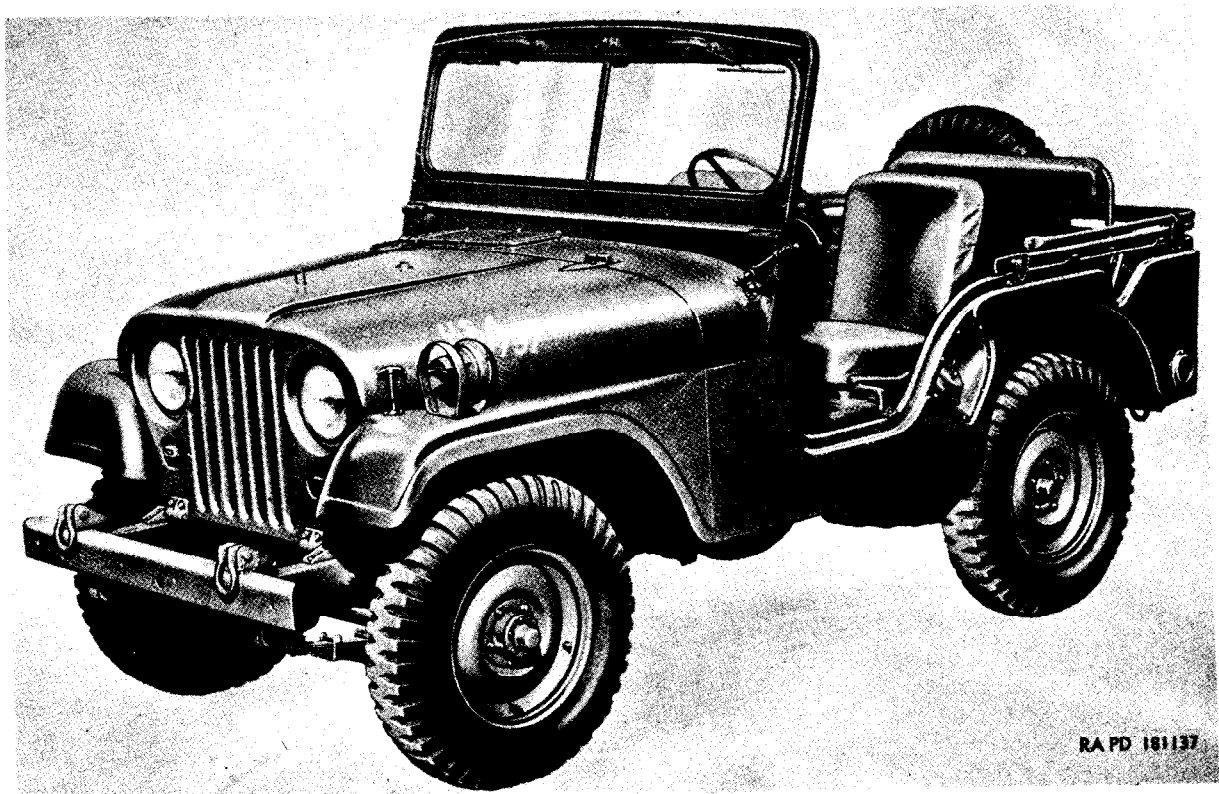
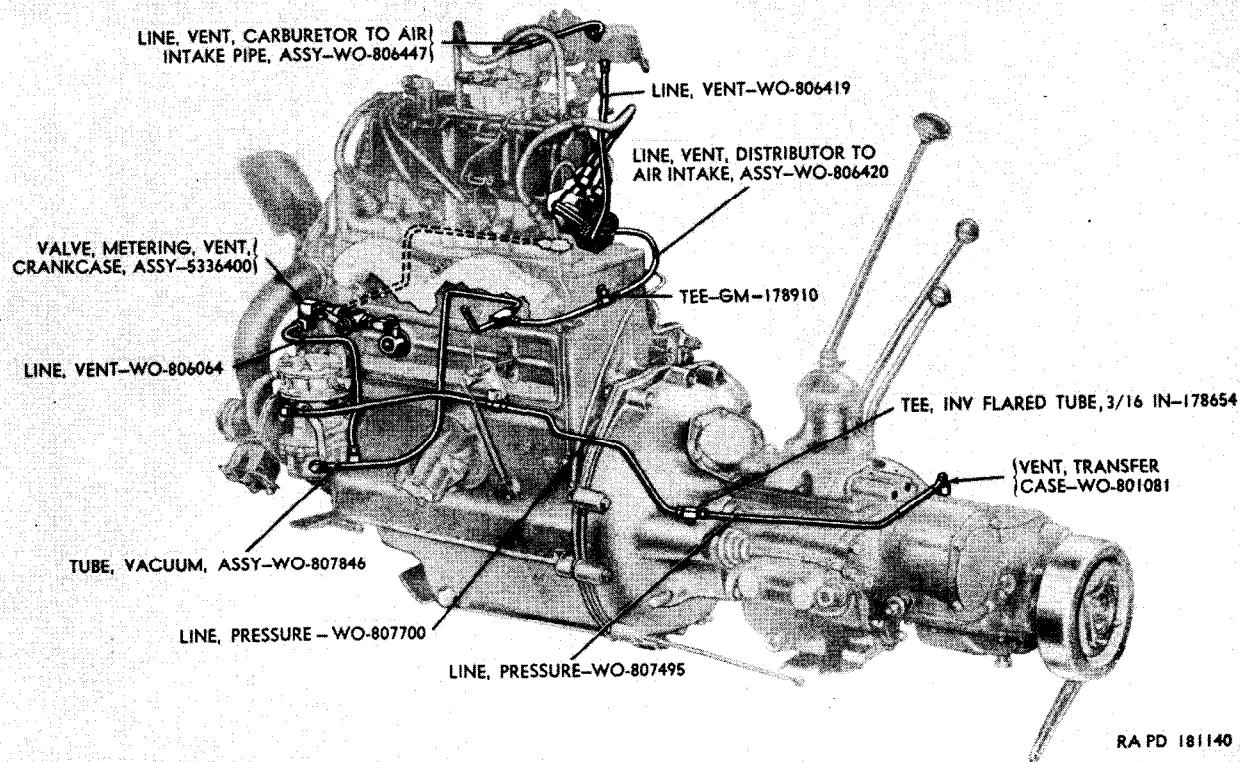

Figure 1. 1/4-ton, 4 x 4 utility truck M38A1—three-quarter left front view.
Figure 4. Underwater ventilating system.
b. This manual contains a description of and procedures for removal, disassembly, inspection, repair, rebuild, and assembly of the power train, body, and frame of the ¼-ton, 4 x 4 utility truck M38A1 (figs. 1, 2, and 3). The appendix contains a list of current references, including supply manuals, technical manuals, and other available publications applicable to the materiel.
a. General. The materiel covered in this publication comprises the power train, body, and frame of the $\frac{1}{4}$ -ton, 4 x 4 utility truck M38A1. This utility truck (figs. 1, 2, and 3) is a four-wheel vehicle with both a front and rear driving axle. Designed for use as a general purpose personnel or cargo carrier, the vehicle is readily adaptable for reconnaissance, communications or other special duties. It is capable of operating with the engine completely submerged in water. Underwater operation is possible because of waterproofed components and a design which utilizes the engine ventilating system as a pressure seal against entry of water past mating surfaces. Since a majority of the waterproofed assemblies require atmospheric pressure, either to operate or prevent condensation damage, a ventilating tube system (fig. 4) is used for this purpose.